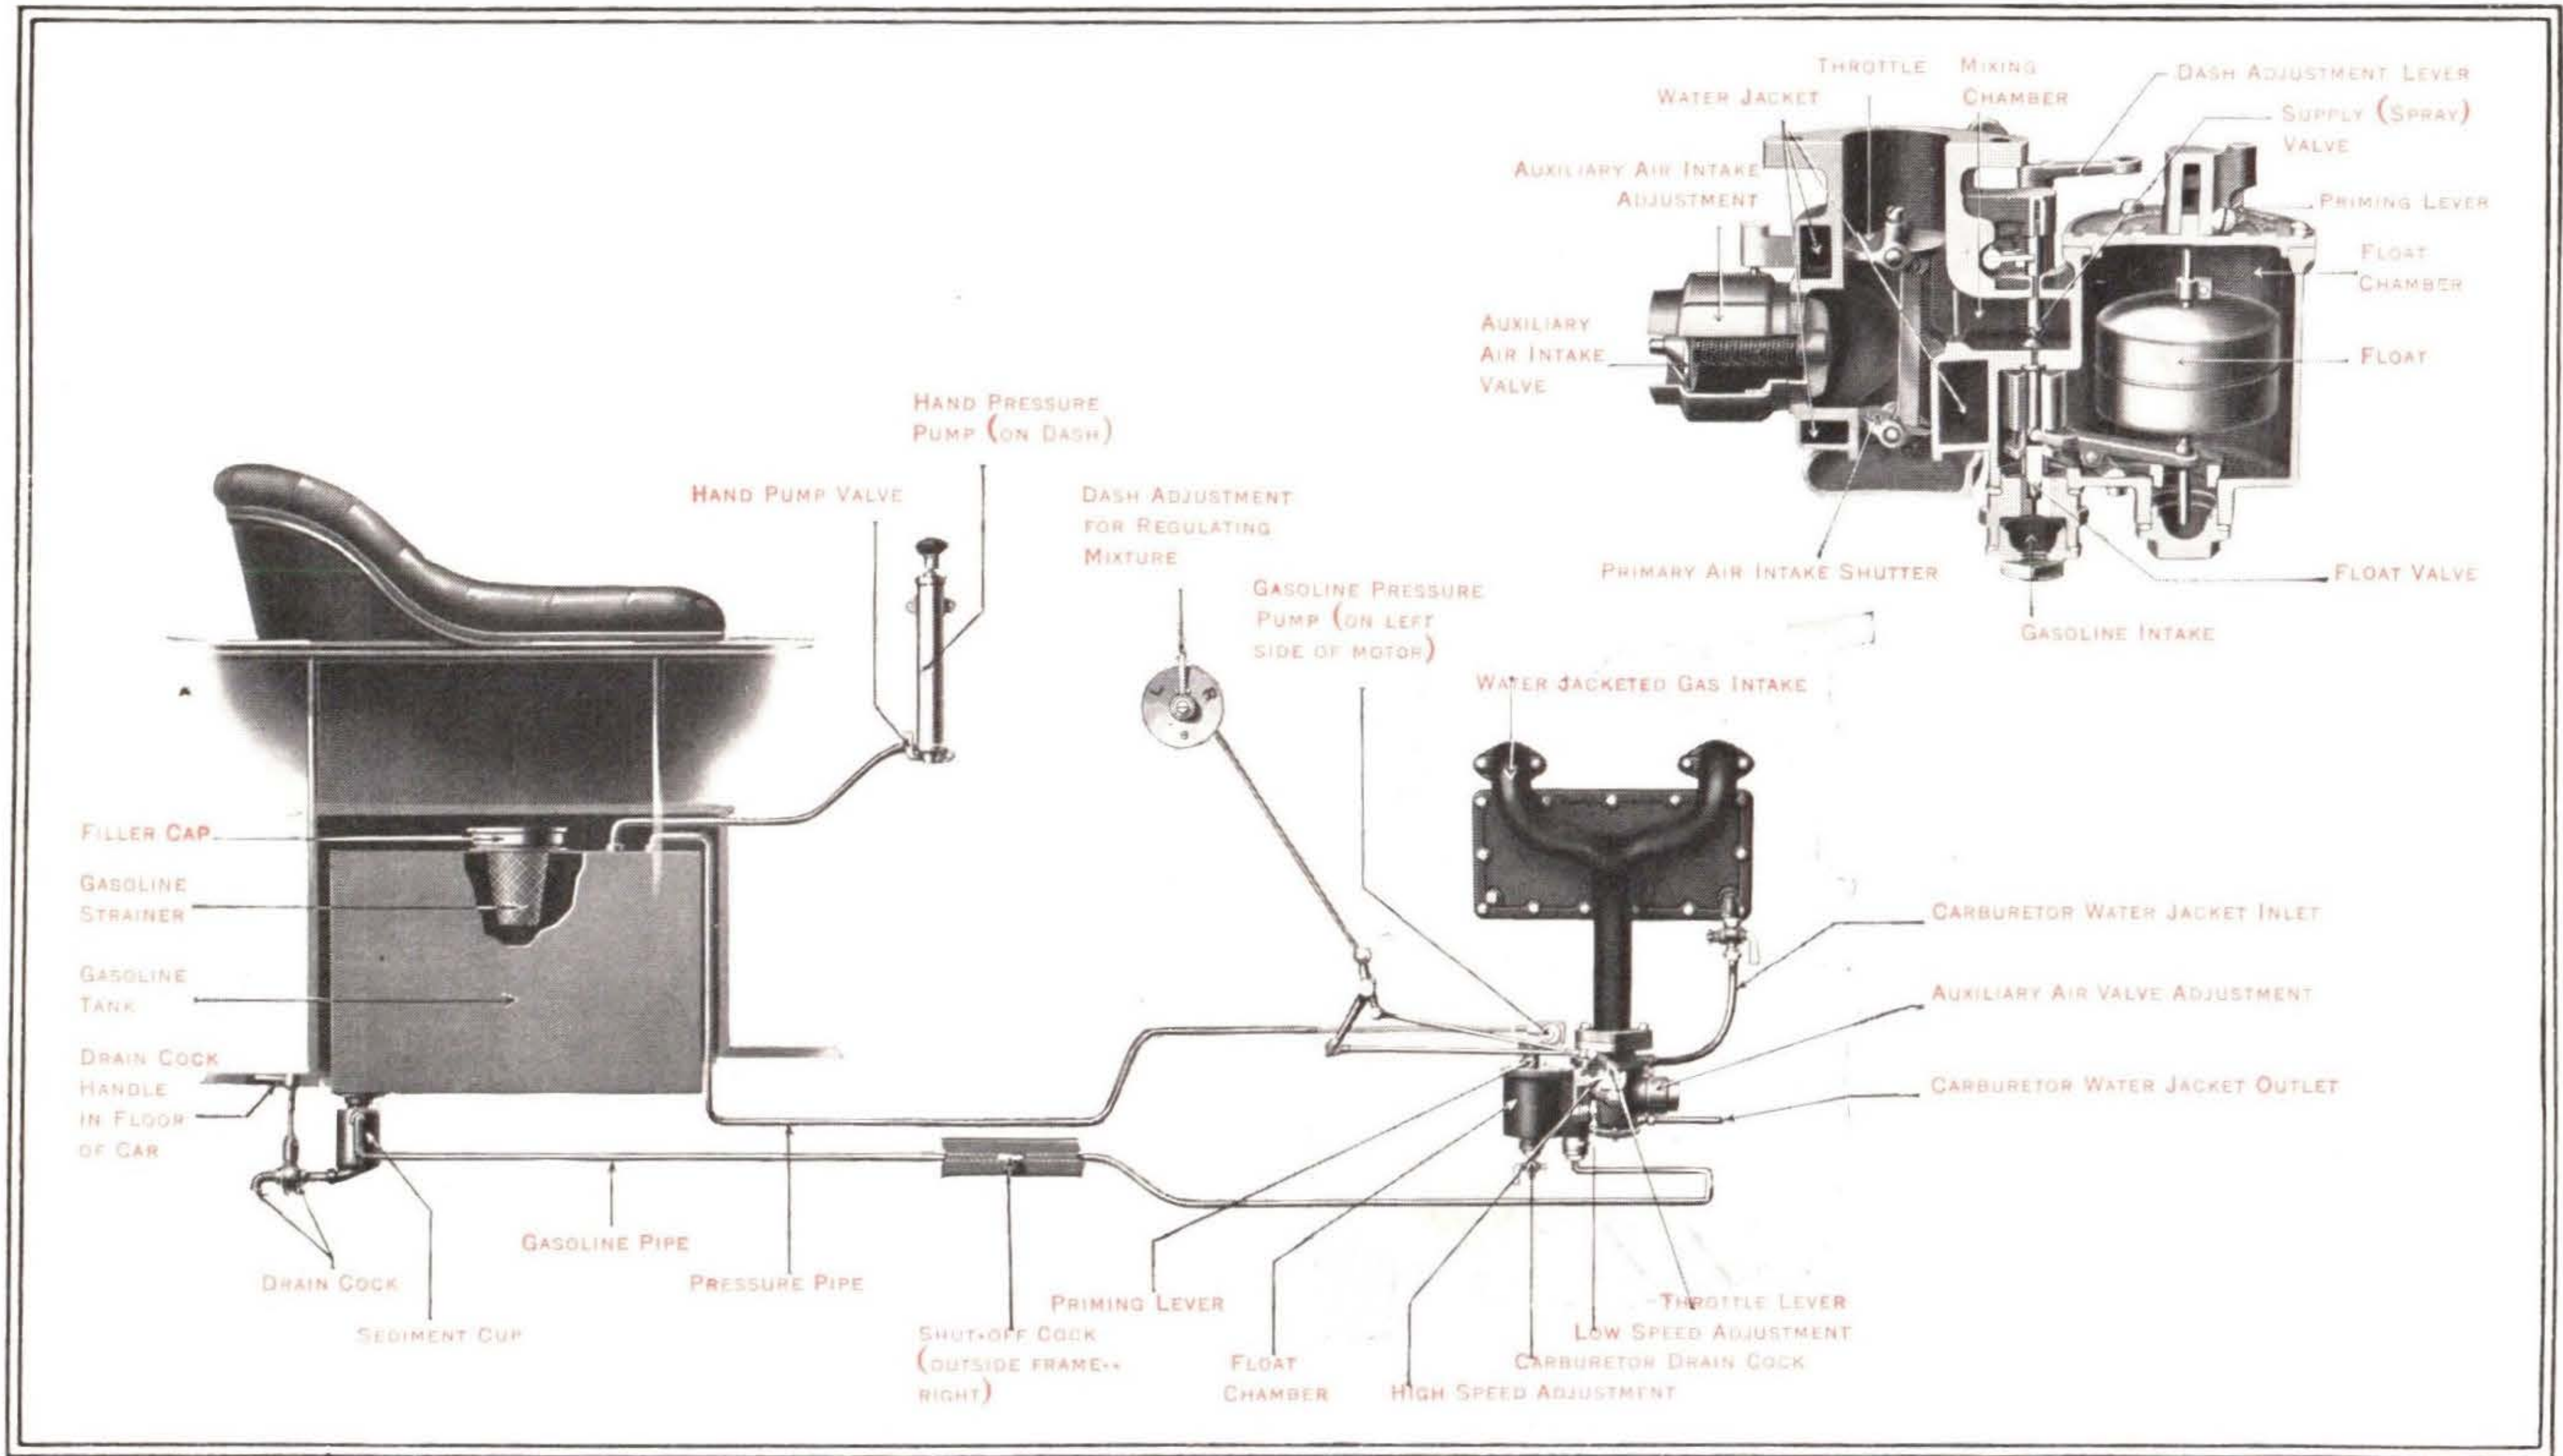

Fig. 6—Gasoline System of the Chalmers "Thirty-six"
The gasoline system consists of (1) the gasoline tank with sediment cup at bottom, and pressure regulator, (2) the gasoline pipe, (3) the carburetor and (4) the intake manifold. (See Fig. 6.) Liquid gasoline flows from the tank through the gasoline pipe to the carburetor. Here it is vaporized and mixed with air. The mixture is drawn by the suction of the descending piston into the cylinder where it is exploded by the spark.
(See Figure 6 for general diagram of gasoline system.)
After the car has been standing for a considerable length of time or when it has been left standing on a grade with the front wheels higher than the rear wheels, pressure should be secured by use of the hand pump (See Fig. 6) before attempting to start the motor.
under the driver's seat (See Fig. 6), the pressure system will not be required for driving over level roads where the motor obtains sufficient gasoline for gravity feeding.
Be sure the gasoline tank filler cap (See Fig. 6) is always air tight.
Leaks in the pressure system are indicated by the gauge on the dash. Pressure should show two pounds on the gauge in normal conditions. Lubricate hand pressure pump about once a month with four or five drops of thin oil. Oil hole will be found at top of pump. (See Fig. 6.)
Beneath gasoline tank is placed the sediment strainer and cup from which the gasoline pipe leads to the carburetor. (See Fig. 6.)
The float chamber (See Fig. 6) maintains a constant level or supply of gasoline for the motor.
After leaving the float chamber the gasoline passes through a nozzle (See Fig. 6) from which it is sprayed in a fine stream into the mixing chamber. The quantity of gasoline passing through the nozzle is regulated by the "supply valve." The supply valve of the Rayfield carburetor is adjustable both from the dash and by the throttle. The dash adjustment of the carburetor (See Page 11) gives a "light" or "rich" mixture by simply turning a thumb lever to the right or left. This makes the carburetor adjustable for all conditions of weather and altitudes. In addition to this dash adjustment the supply valve opens as the throttle is opened. This is a purely automatic operation and maintains the proper mixture for all motor speeds.
The suction created by downward motion of the motor pistons draws air into the mixing chamber through both the primary and auxiliary air inlets. (See Fig. 6.) This air floats into the mixing chamber around the nozzle and picks up the gasoline which leaves the nozzle in the form of a spray. Thus the action of the mixing chamber is not unlike that of an ordinary atomizer in which the air forced from the rubber bulb picks up a certain amount of the liquid in the bottle and sprays it out in the form of a fine vapor.
At the front end of the carburetor is the "auxiliary" air inlet. This is controlled by a spring. (See Fig. 6.) At low speeds when only a small amount of air is being drawn through the carburetor the spring holds this valve almost shut. As the speed increases and more air is needed the suction operating against the tension of the spring draws the valve further and further open, thus giving an increased supply of air exactly in proportion to the need for the increased speed. The carburetor thus automatically produces the correct mixture for all motor speeds.
On the throttle lever and at the base of the dash supply valve adjustment lever (See Fig. 6) are two nickel plated screws for the permanent adjustment of the gasoline supply valve. Do not touch these except under the direction of a Chalmers dealer.
As explained above, when the gasoline rises to a certain height in the float chamber, the float valve automatically closes. If, for any reason, it should be desirable to have a greater pressure of gasoline in the carburetor (as, for instance, in extremely cold weather), pull the priming lever at the top of the float chamber. (See Fig. 6.) This lever pushes down the float and opens the float valve, admitting additional gasoline.
The throttle valve, which is of the "butterfly" or "shutter" type, is located just below the inlet manifold. (See Fig. 6.) It is connected by a rod, with the hand throttle and the foot accelerator (See Page 11).